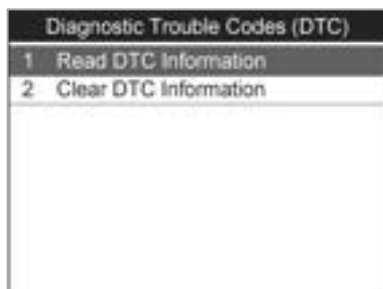

Figure 9.14
- 2) Use the **UP/DOWN** scroll button to select **Read DTC Information** and press the **OK** button (Figure 9.14).
- 2) Use the **UP/DOWN** scroll button to select **Clear DTC Information** and press the **OK** button (Figure 9.14).